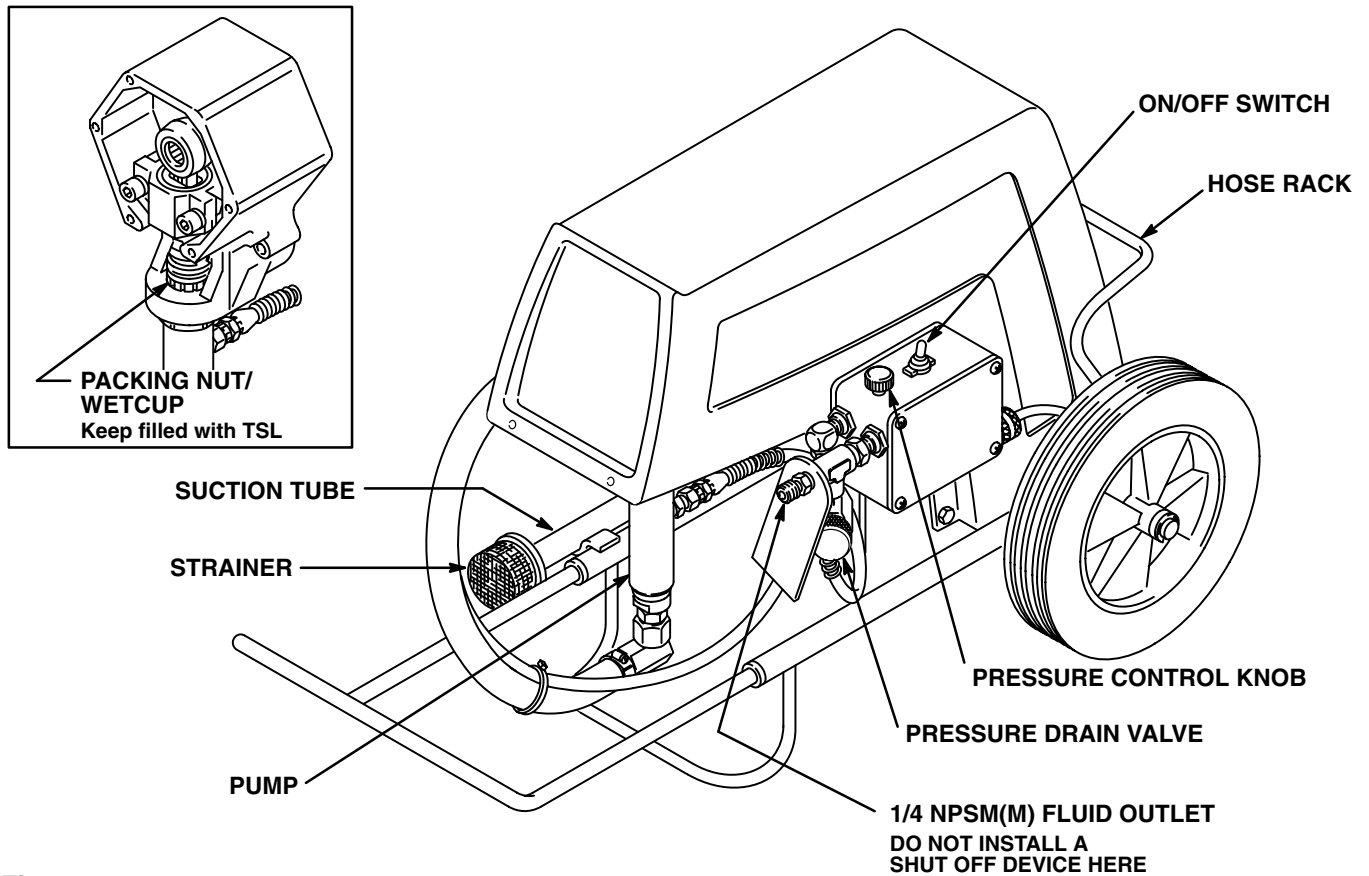

Fig 1
3. Never install any shutoff device between the pressure control and the first 50 feet (15 m) of hose. See Fig 1.